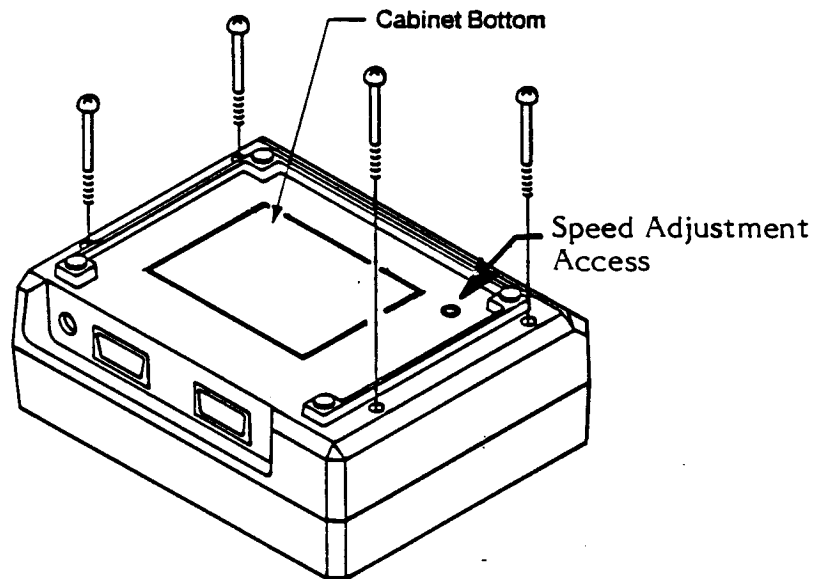

Figure 4-3. Speed Adjustment Access
2. Insert the test tape and turn the unit over to locate the speed adjustment access, as illustrated in Figure 4-3 below.
6. Move the speed adjust screw by inserting a 2.0 m/m flathead screwdriver through the access illustrated in Figure 4-3. The wavelength should read .33 ms, as illustrated in Figure 4-4 below.